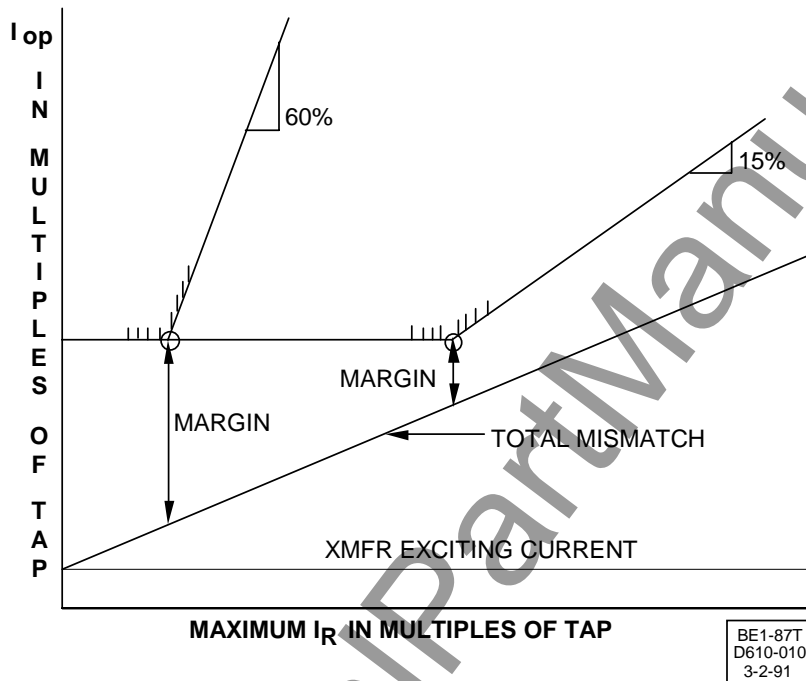

Figure 4-34. Slope Needed to Accommodate Total Mismatch with Adequate Margin
The recommended restrained slope setting (S) is a function of the total mismatch and the power transformer exciting current. This provides an ample security margin with respect to the characteristic kneepoint of the BE1-87T. Refer to Figure 4-34.